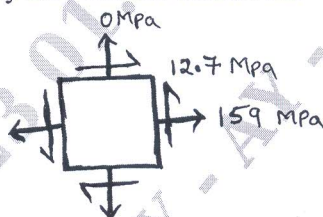

Fig.Q3(b)
- b. For the state of plane stress given Fig.Q3(b), determine the principal planes, the principal stresses and the maximum shear stress by graphical method. Also find the stress components on the element after it is rotated by 20° counter clockwise.